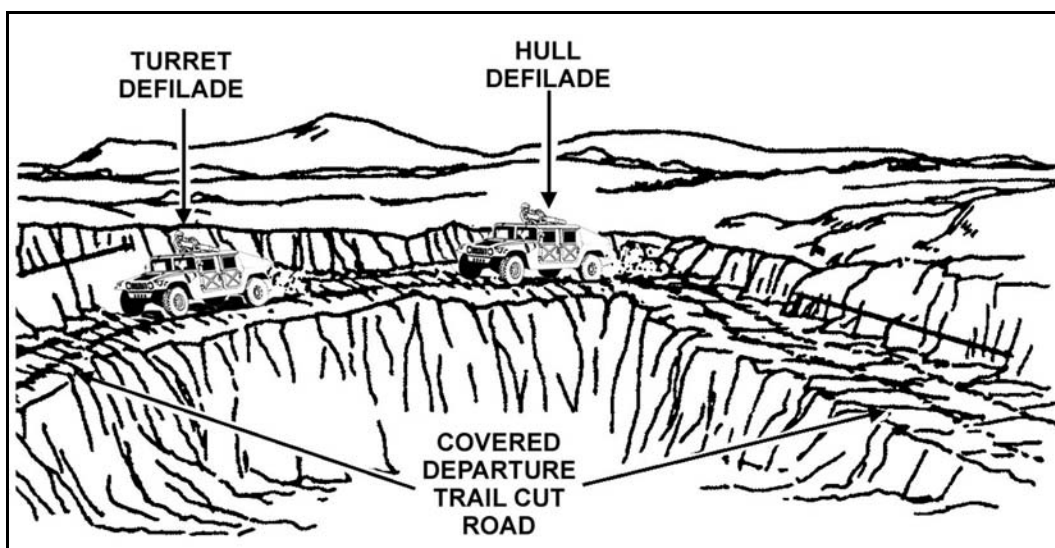
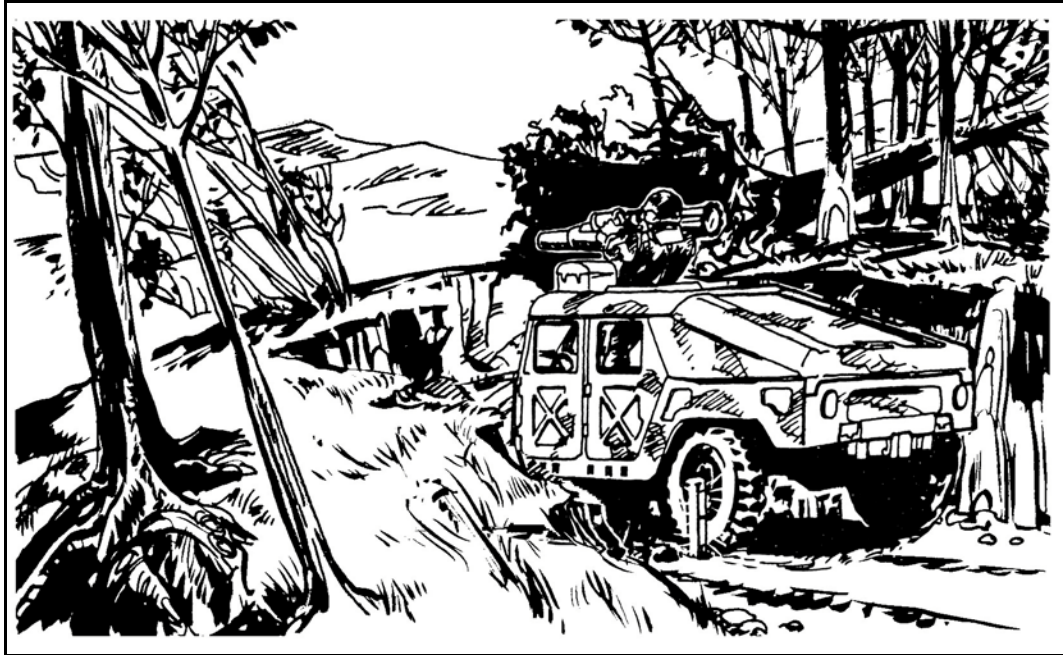
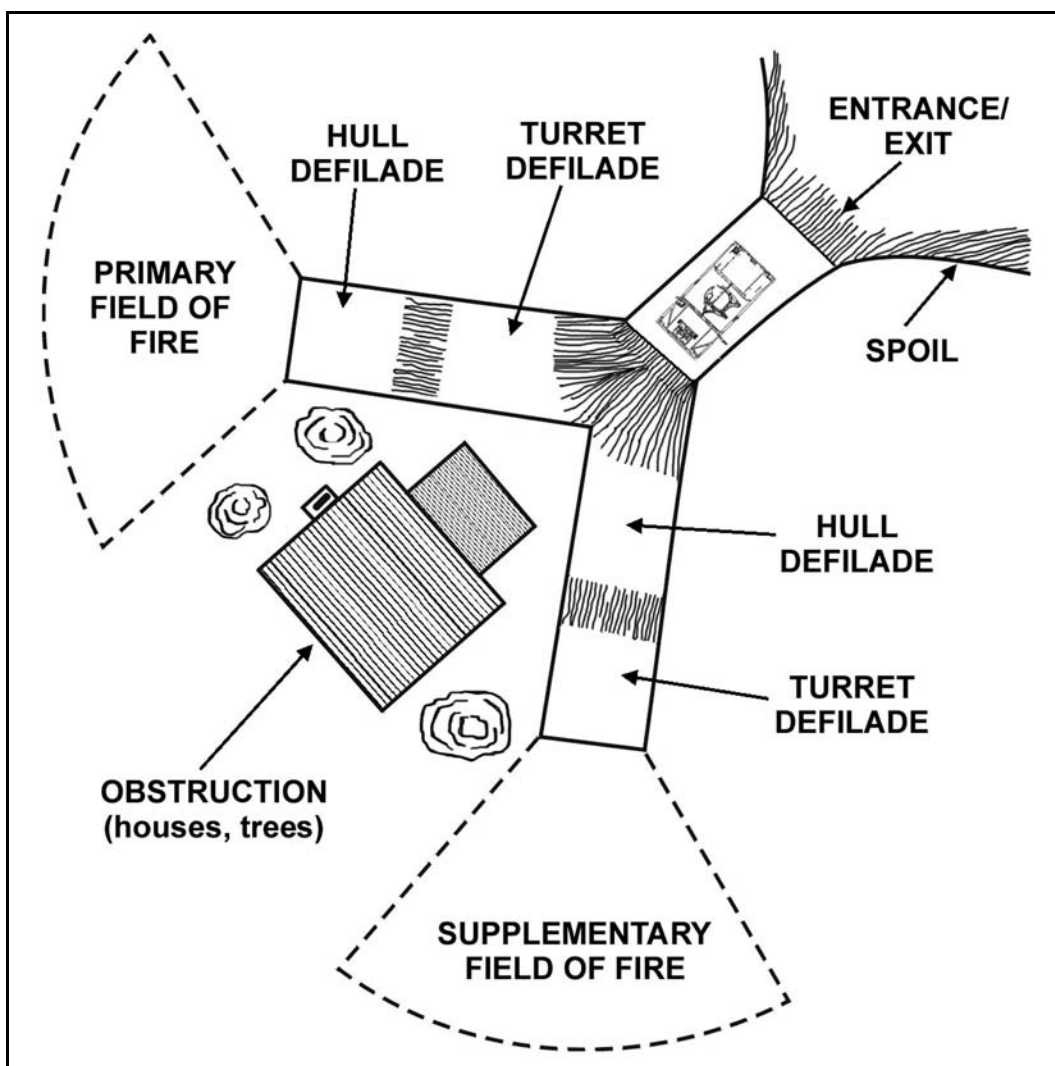

Figure D-5. Natural hull-down position.
Figure D-6. Excavated hull-down position
Figure D-7. Hide position to hull-down position
a. **Mounted Position.** The mounted firing position is characterized by a hull-down posture. The vehicle is positioned behind either a natural or constructed cover with only the selected antiarmor system exposed. Leaders should seek a natural hull-down position (Figure D-5) whenever it is available. During offensive operations, natural hull-down positions are identified by a detailed map reconnaissance. When a natural hull-down position is not available, the unit obtains engineer assistance to excavate hull-down positions (Figure D-6). When hide positions are used, the primary firing positions should be hull-down positions. Leaders should select or construct hull-down positions so that the vehicle moves quickly into complete defilade. Routes into and out of hull-down positions should offer sufficient cover and concealment (Figure D-7, page D-8).